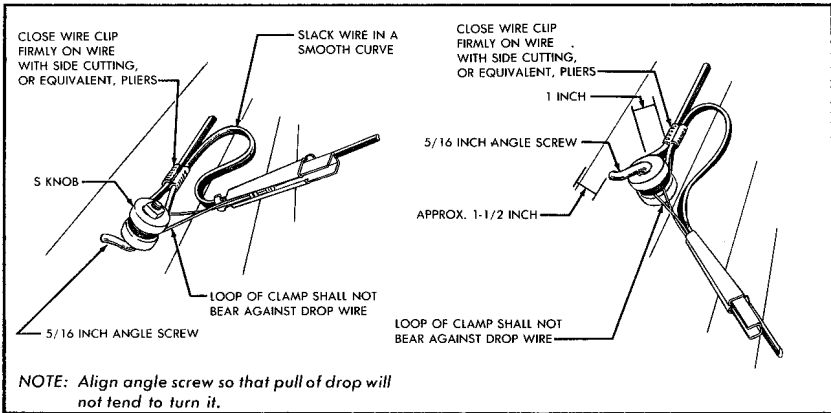

FIGURE 1. First Attachment, Angle Screw (Drop Wire Run in Horizontal Direction On Building)
4. TYPICAL FIRST ATTACHMENTS TO BUILDINGS AND STEEL STRUCTURES (Figures 1 through 9)